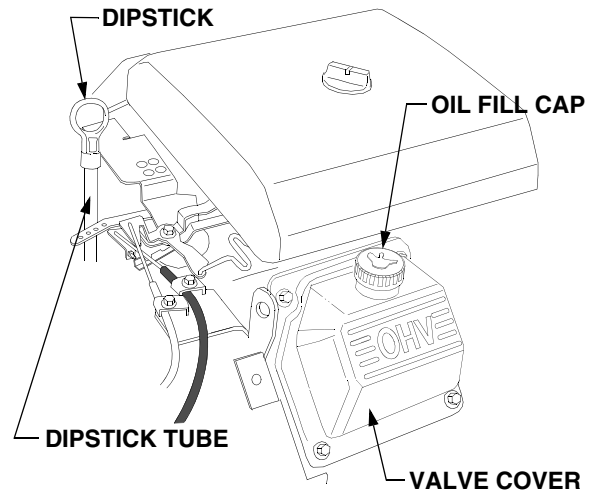

Figure 47
- Check the oil level only while the engine is stopped and the tractor is level. Clean the area around the oil level dipstick to prevent debris from entering the crankcase. See Figure 47.
- To check the oil level, withdraw the dipstick and wipe it clean; then insert the dipstick all the way into the tube before withdrawing it for a true reading. See Figure 47.
- Clean the area around the oil filler cap to prevent debris from entering the crankcase. Refer to Figure 47.